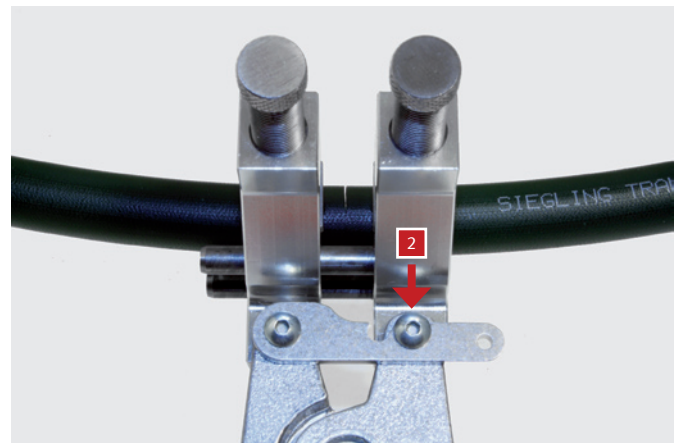

Fig. 11
- 11** • Setting 2 for round belts of 7 to 15 mm diameter notch 2 (Fig. 11).